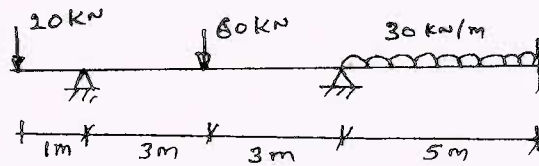

Fig Q7
- 7 Analyse the continuous beam shown in Fig Q7 by flexibility matrix method. Draw BMD and SFD.